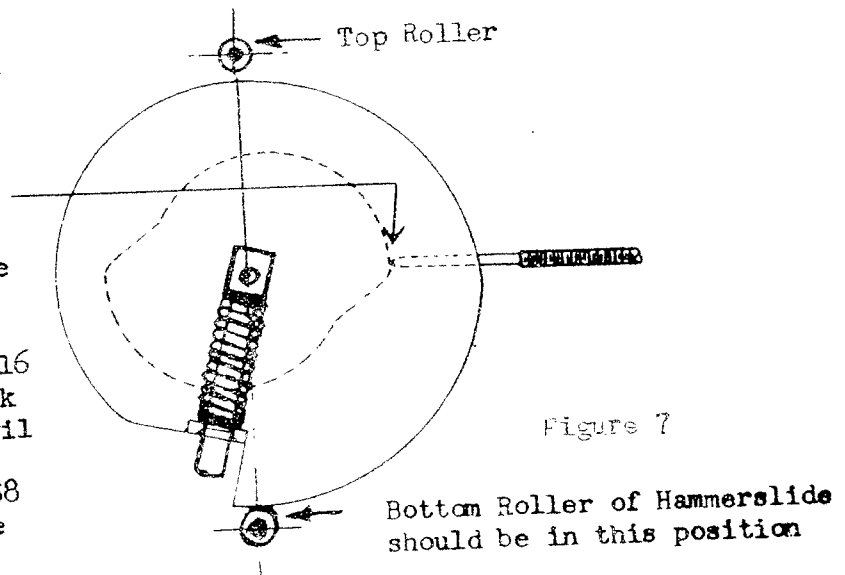

Figure 7
- (1) Disconnect the power cord so the machine will not be accidentally turned on.
- (2) Rotate the cam assembly by hand to the position shown in Figure 7 so that the 352007 plunger is against the highest point on the lobe of the 352005 feed cam.
- (3) Raise the adjustable anvil 352016 by turning the 352068 anvil lock knob counterclockwise. The anvil must be raised far enough to place the bent tab "B" of 352058 feed mechanism adjustment gauge between the two anvils.
3. Rotate the cam assembly by hand until the upper roller of the 352543 hammerslide is just about ready to roll off the step on the 352004 hammer cam, near the bent over lugs, which receive the spring pivot arm. See Figure 7, but in reverse order.
9. Rotate the cam assembly by hand until the lower roller on the 352543 hammerslide is just about ready to roll off the step on the 352004 hammer cam, near the bent over lugs which receive the spring pivot arm. As shown in Figure 7.